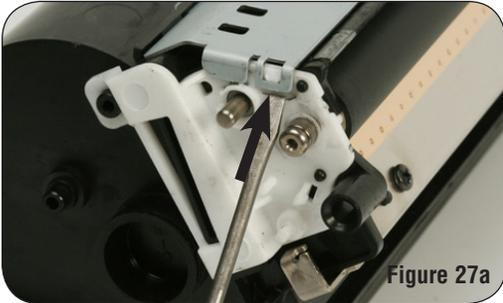

Figure 27a
8. Position the toner hopper upside down on your work surface. Using a small slotted screw driver pry on each end and the center of the toner hopper bottom plate, as shown in Figures 27a, 27b and 27c.